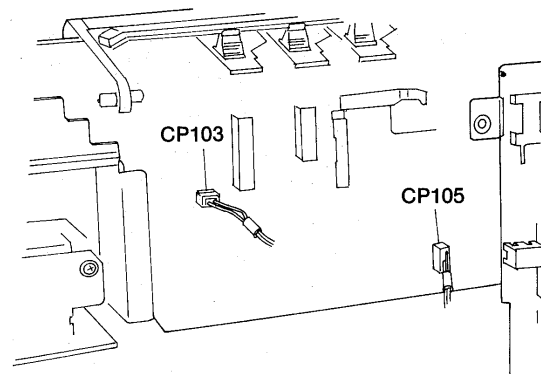

Fig. 2
3. Disconnect the CP103 (3 pin) and CP105 (5 pin) sockets. (Fig. 2)